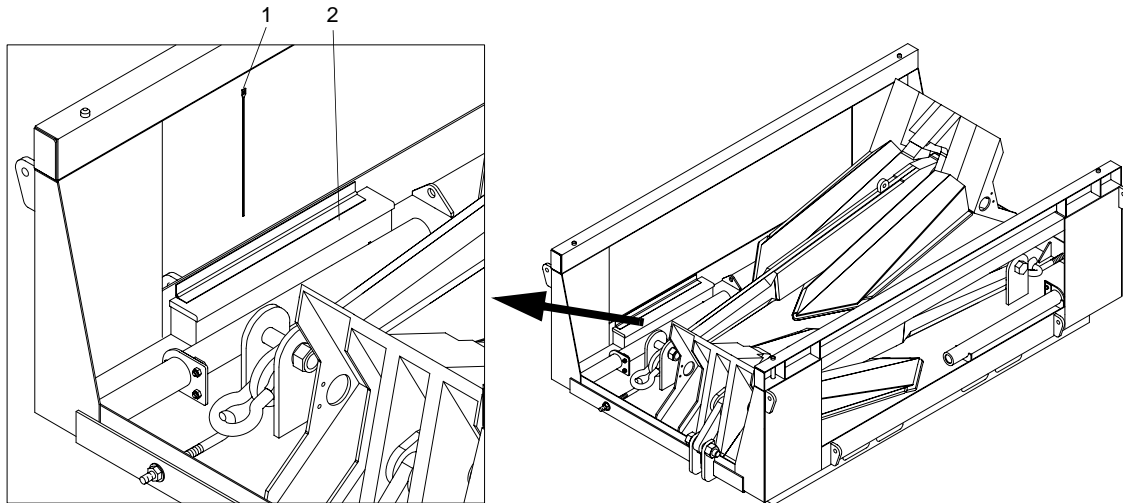
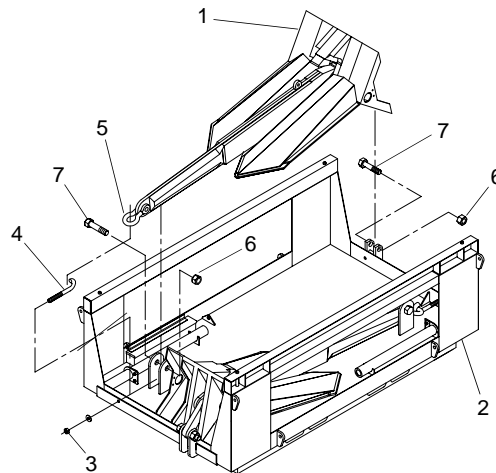

Figure 24. Plastic Cable Tie Stowage
Figure 25. Offshore Anchor Stowage
20. Remove two plastic cable ties (figure 24, item 1) from each anchor pallet toolbox (figure 24, item 2).
21. Remove the offshore anchors (figure 25, item 1) from the anchor pallets (figure 25, item 2).
- a. Loosen nut (figure 25, item 3) until hook (figure 25, item 4) clears anchor shackle (figure 25, item 5).
- b. Remove nuts (figure 25, item 6) and bolts (figure 25, item 7) securing both ends of anchor (figure 25, item 1) to pallet (figure 25, item 2). Store hardware in pallet toolbox (figure 24, item 2).
- c. Using forklift and forklift lifting adaptor, remove anchor (figure 25, item 1) from pallet (figure 25, item 2) and position on FC platform.